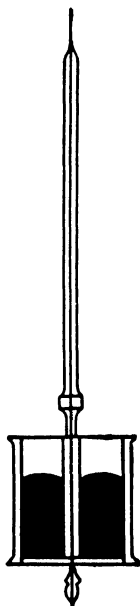

Fig. 11.6. A clock pendulum.
65. Pendulums and Balance Wheels. Pendulums are used to regulate the speed of clocks — the longer the pendulum the slower the clock runs. If the pendulum is made of metal, the length changes as the temperature changes, and the accuracy of the clock is affected. If wood is used instead of a metal, it changes length because of changes in the humidity. One way of compensating for the change in length of a metal pendulum is shown in Figure 11.6. Two containers of mercury are mounted at the lower end of the pendulum rod.